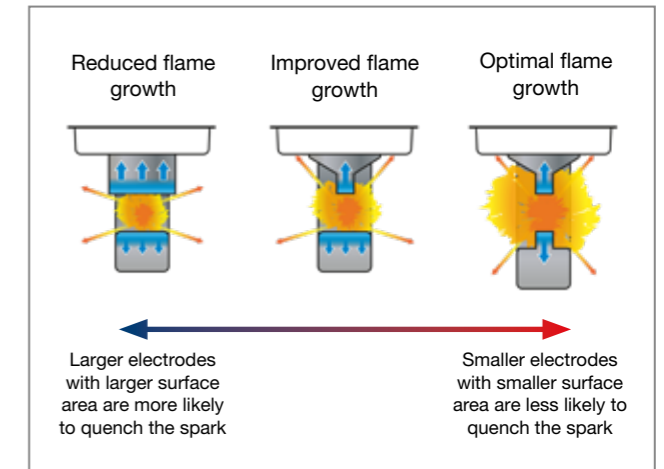

Fig 6.15 Quenching effect created by different size electrodes
**Electrode shape.** The examples shown in Fig 6.15 illustrate how a larger electrode will draw more heat energy from the flame kernel due to the larger mass and larger surface area. When a smaller electrode is used, which has a smaller mass and smaller surface area, it will draw less heat away from the flame kernel thus reducing the potential for flame quenching. A smaller ground electrode will again have the same effect of reducing the flame quenching.